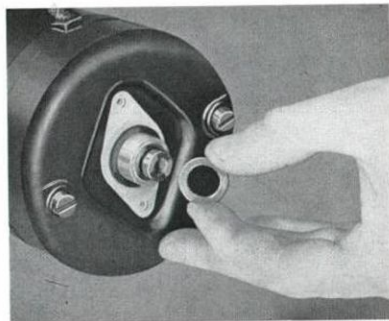

Fig. 3-80. Removing adjusting washers
5. Remove the brush bridge from the rotor shaft. NOTE. The washers are as shown in Fig. 3-80. When the bridge is removed, the negative brushes follow also, but the positive brushes will remain in the field winding.